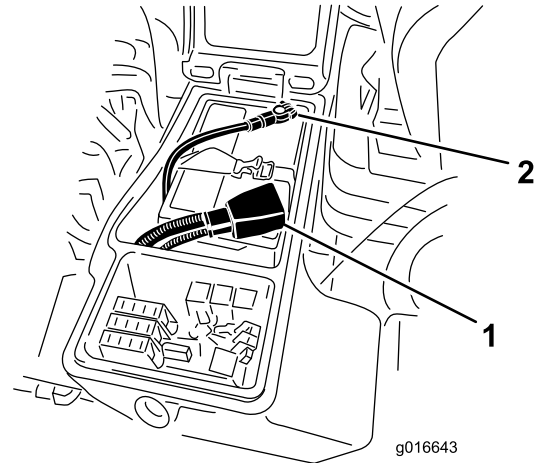

Figure 87
1. Install the positive battery cable (red) to the positive (+) battery post (Figure 87).